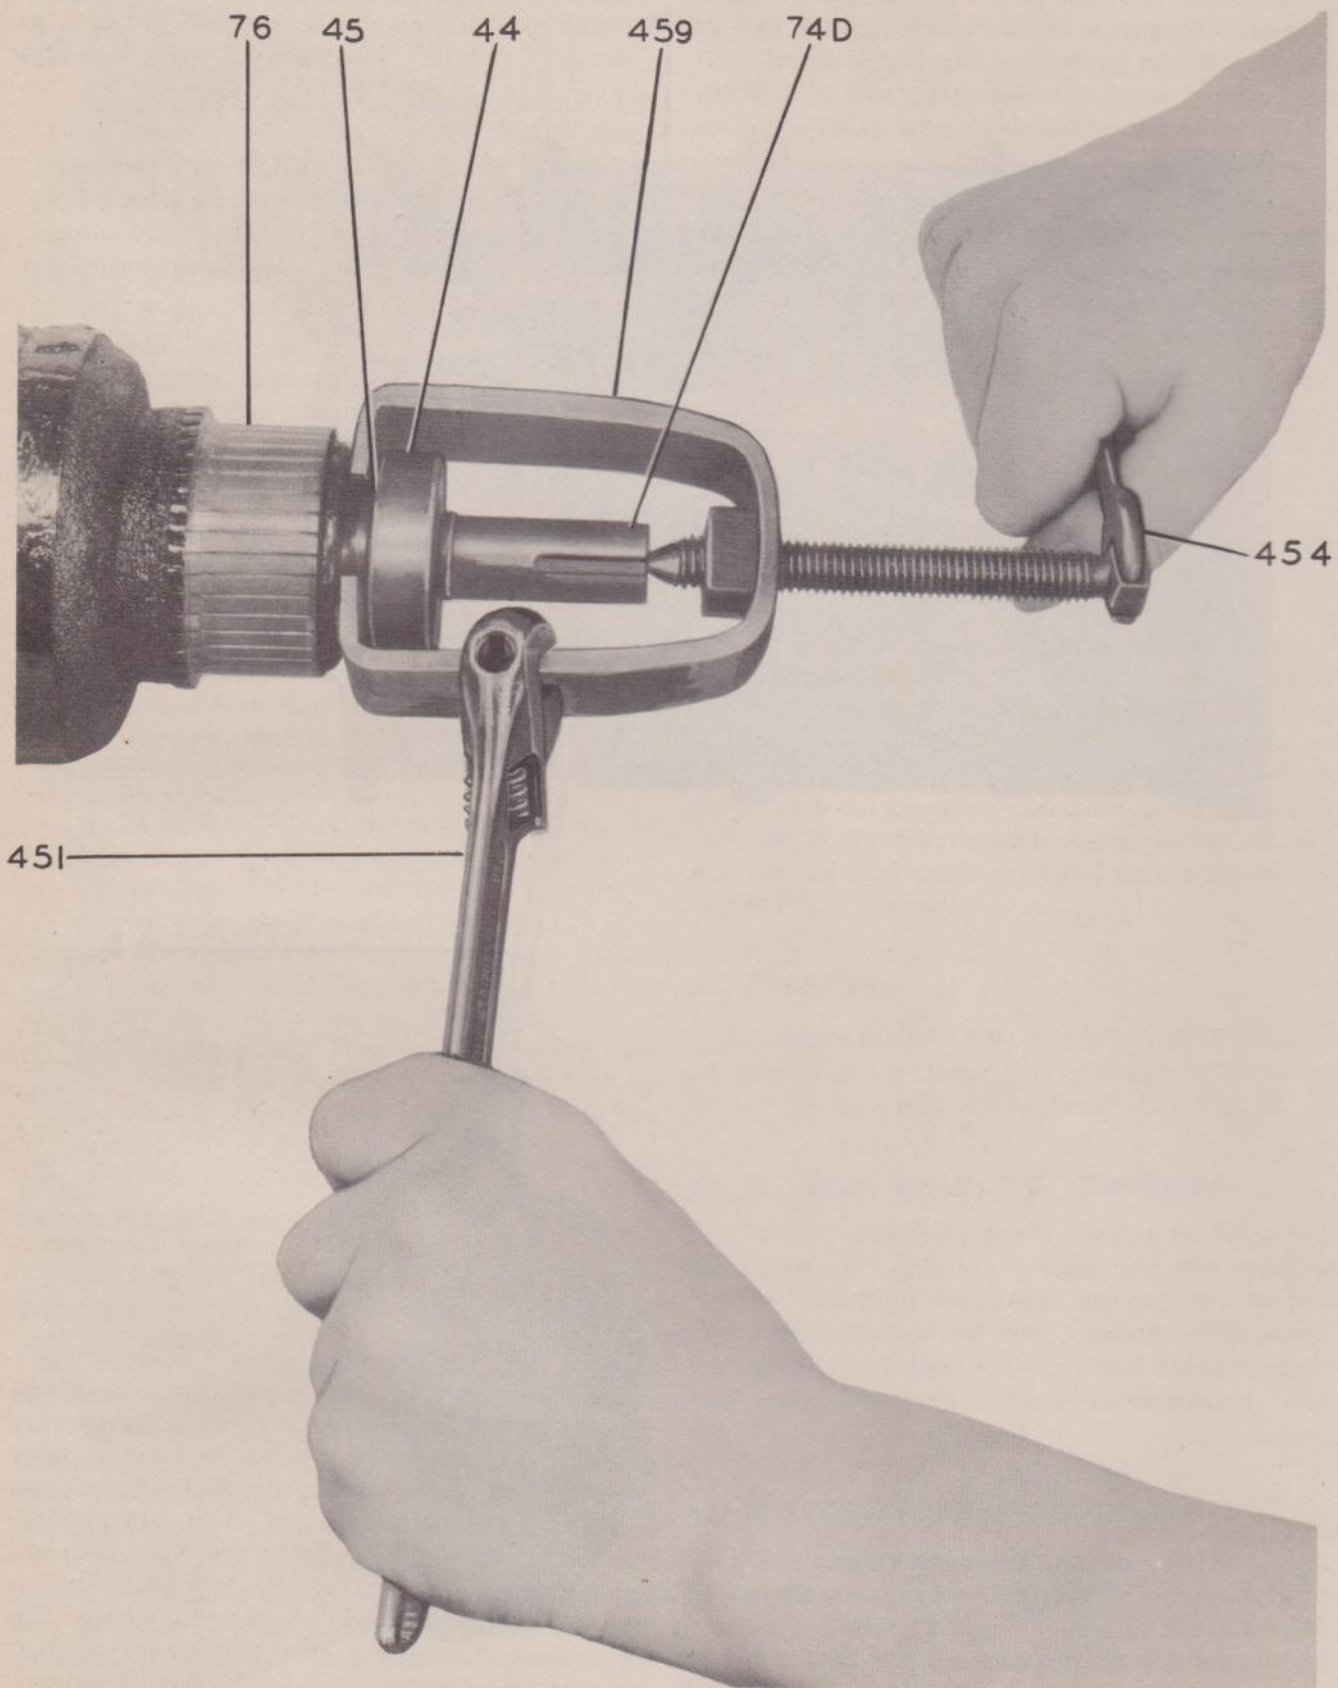

FIG. 21 REMOVING THE GENERATOR BEARING
the gear puller from turning, screw in the set screw until the bearing is removed. Do not lose the grease slinger and wipe it clean before proceeding with the replacement of the bearing. See Fig. 21.
(16) Remove the strap cover (48).
(17) Remove the brush holder caps (41A).
(18) Before removing the H.V. brushes (43), either mark one side of the brush or note which side is up so that they can be replaced in the same way in the same holders (41R) and (41L).
(19) Remove the H.V. brushes and lay them carefully away so that the brush faces will not be damaged or scratched.
(20) Remove the armature by pulling it out through the L.V. bracket end.
(21) Remove the ball bearing (44). Refer to Par. 35 *d* (15) and see Fig. 21.
(22) Obtain a new armature (74) and replace the bearing on the H.V. end. See Par. 40—Installing a New Bearing. Check the original bearing that was on the shaft before using it again. If you can turn the outer race smoothly while holding the inner race stationary and cannot detect any unusual play or looseness between the inner and outer races, the original bearing may be used again on the new armature. If a new bearing is available and you have any doubt about the original bearing always use a new bearing.
(23) Replace the new armature in the frame. Locate the bearing on the H.V. end with the bearing housing and push the L.V. end of the armature until the bearing enters the housing.
(24) Replace the bearing on the L.V. end. See Par. 35 *d* (22).
(25) Reassemble the generator and connect to the engine. See Par. 40 *b* (11) to (18).
set screw by hand until the point is in the center-hole of the armature shaft. Use an open end wrench (454) on the head of the set screw and while holding the gear puller from turning, screw in the set screw until the bearing is removed. Do not lose the grease slinger and wipe it clean before proceeding with the replacement of the bearing. See Fig. 21.